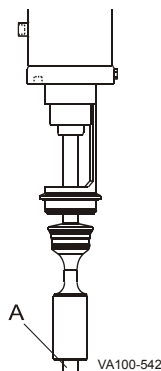

Figure 23 - Valve Stem Removal
1. Lower stem removal: Using an open end wrench, remove the lower stem (Figure 23, item A) from the actuator by turning it counter-clockwise.